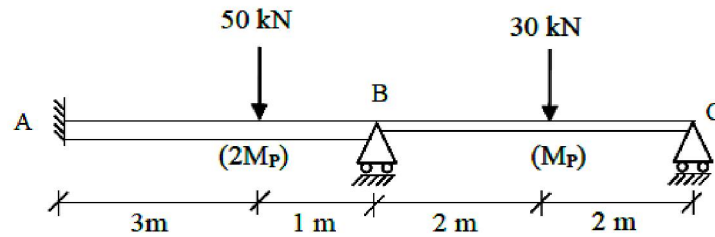

Fig.6
- 7 a) List out the circumstances where curved beams are provided. (4)
b) Discuss the different types of forces developed in a curved beam. (6)
c) Derive an expression for deflection at the free end of a quarter circle beam of radius R carrying a vertical load P at its free end. Sketch the shear force, bending moment and its torsional moment diagrams. Assume flexural rigidity (EI) = torsional rigidity (GJ). (10)
- 8 a) What are the assumptions made in theory of plastic analysis? (5)
b) Derive an expression for collapse load for a simply supported beam of span L carrying a concentrated load of W at centre by static and kinematic method. (5)
c) Calculate the plastic moment carrying capacity required for the continuous beam with the working loads as shown in fig.6. Take load factor =1.5 (10)